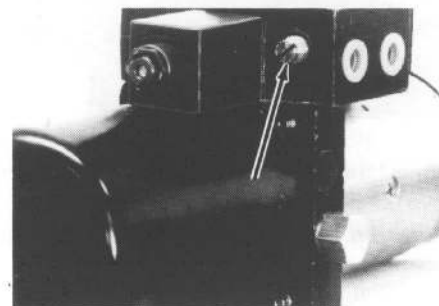

Figure 1-5
2. The slotted screw underneath the cap is for adjusting the relief valve pressure setting. Turning the screw clockwise increases the pressure and turning the screw counterclockwise decreases the pressure. Adjust pressure to relieve at 2000 PSI. See Figure 1-5.